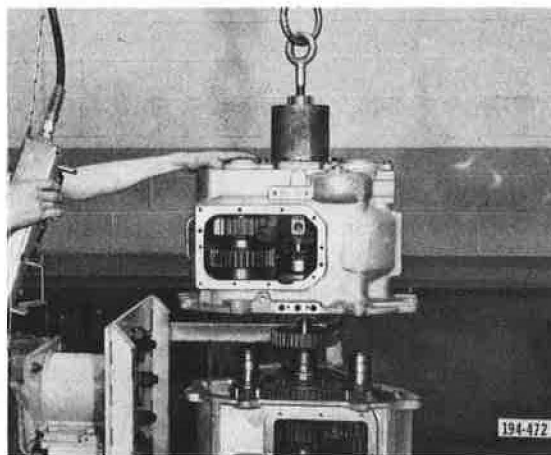

Figure 5-252. Removing Rear Case
32. Remove rear case from front case, using a hoist and lifting eye. Keep cases in good alignment while separating, to prevent binding of countershaft bearings. See Figure 5-252.